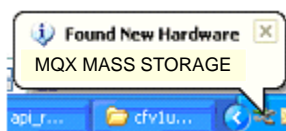

Figure D-1. Found New Hardware callout
1. Connect the hardware to Microsoft Windows host computer. As soon as you turn on the device, the MSD device gets installed onto the host computer. You should be able to see the callout as shown in Figure D-1 on the right bottom corner of your screen. At this point, Microsoft Windows installs the host driver for the device.